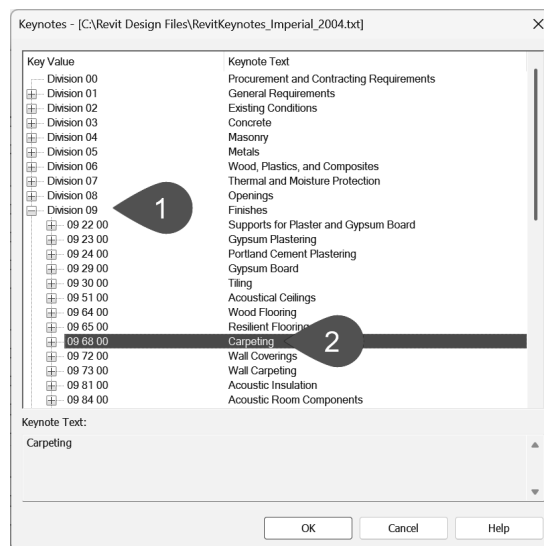

FIGURE 4-3.7 Keynotes selection dialog
- b. Click the small button to the right of the **Keynote** field and then select **09 68 00 Carpet** as shown in Figure 4-3.7.